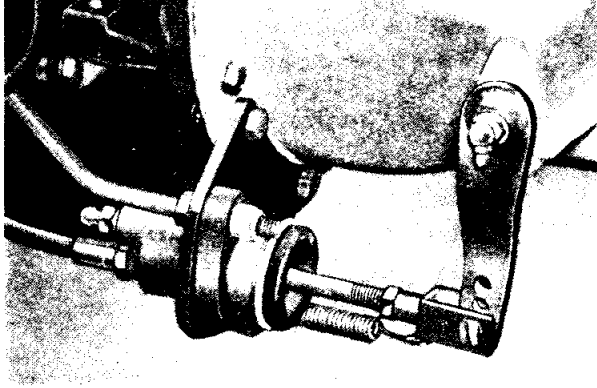

Fig. 3 The Slave Cylinder and support bracket.
18. REMOVAL OF THE SLAVE CYLINDER (with fork-rod assembly) Fig. 3.